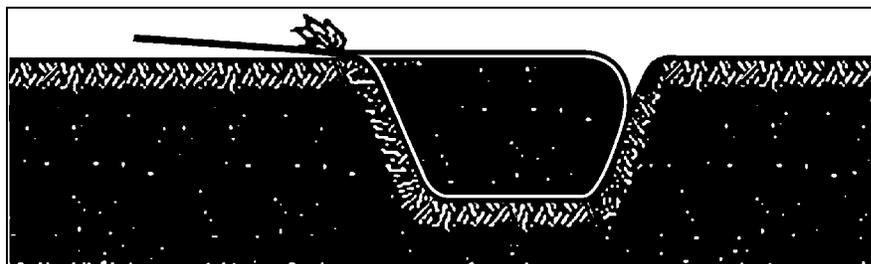

Figure 3-77. Sand Parachute
- d. Sand Parachute (see Figure 3-77).
- (1) Dig a large, deep hole and line it with a tarpaulin.
- (2) Fill the tarpaulin with the dirt taken from the hole.
- (3) Lash the four corners of the tarpaulin together and attach the rigging.
- (4) Apply winch-operating procedures according to the appropriate vehicle TM.